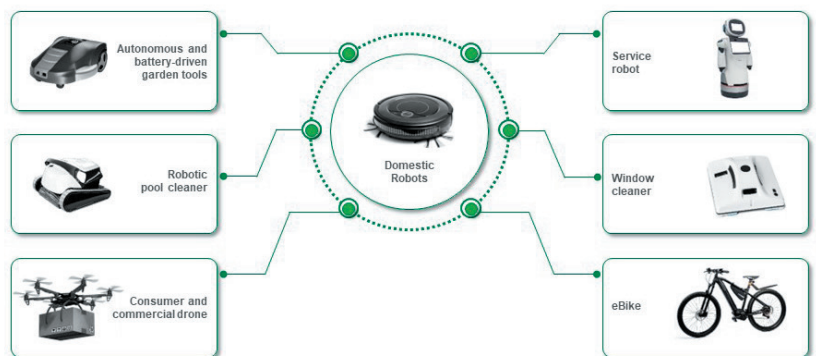

Figure 1. Home Robotic Appliances share common safety and control requirements
Consumers are taking advantage of the benefits that automation and the Internet of Things (IoT) bring to their lives. Robotic appliances can make life easier by reducing the work of cleaning and maintenance. As a result, there is a growing demand for these devices as they can integrate into smart home systems. In addition, developments in artificial intelligence (AI), machine learning, and sensor technologies are enabling more sophisticated domestic robots. These robots can navigate complex environments, recognize objects, and respond to voice commands. **Figure 1** illustrates some examples of robotic appliances.